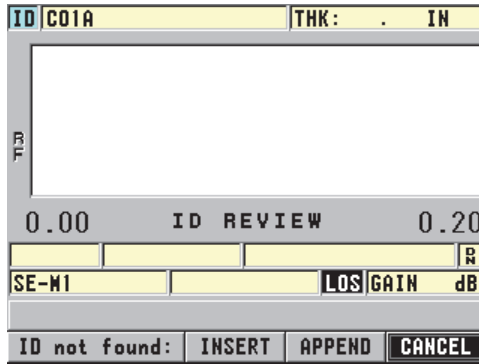

Figure 6-38 The message when the edited ID is not in the database
6. When the edited ID is not in the database, the help text bar message shown in Figure 6-38 on page 121 appears. Select **INSERT** to insert the new ID in front of the active ID.